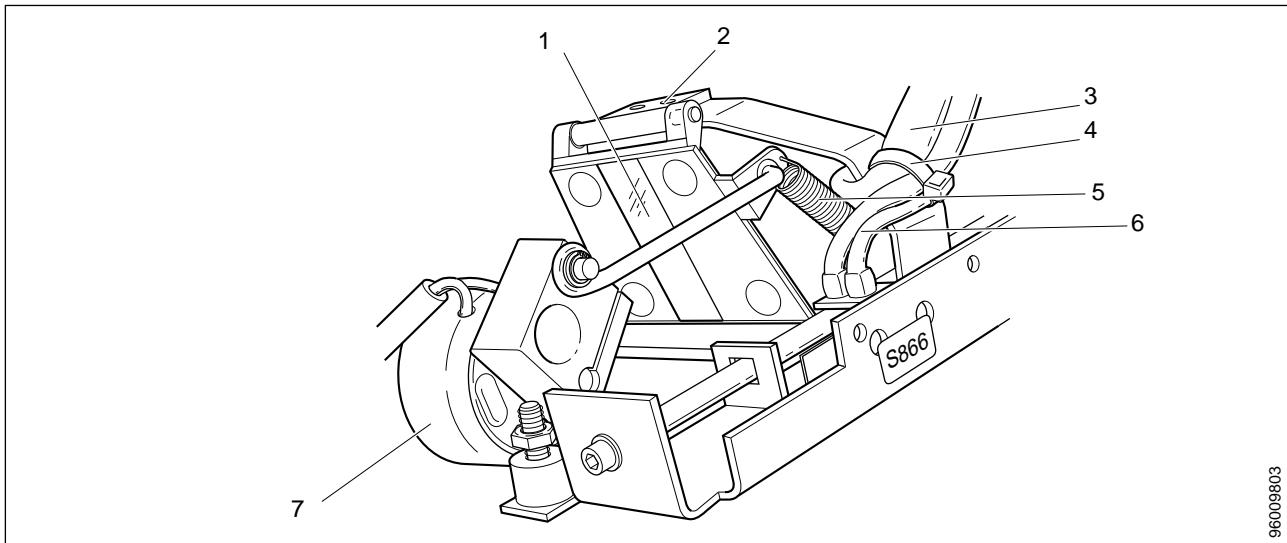
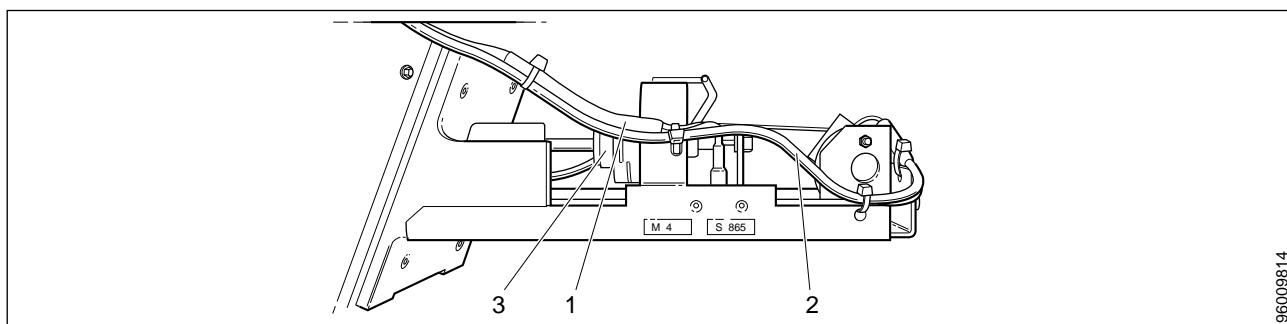

Fig. 3 Diaphragm, from right
Fig. 4 Diaphragm, from left
5. Cut and remove the cable tie (4/Fig. 3) holding the collimator lamp cable (3/Fig. 3).
6. Loosen the cable ties along cables from switches (6/Fig. 3), collimator lamp (3/Fig. 3) and electromagnet (7/Fig. 3).
Disconnect switch cable (6/Fig. 3) at X853, collimator lamp cable (3/Fig. 3) at X894, motor M4 cable (3/Fig. 4) at X854 and switch cable (1/Fig. 4) at X852.
Cable (2/Fig. 4) to electromagnet shall remain connected at X878.
7. Unhook the spring (5/Fig. 3) from the mirror (1/Fig. 3).
11. Remove the mirror (1/Fig. 3) by unscrewing screws (2/Fig. 3).
2. Lay cable X894 according to (3, Fig. 3).
The light field is adjusted sideways with screw (1/Fig. 3) and forwards/backwards with screw (2/Fig.3).